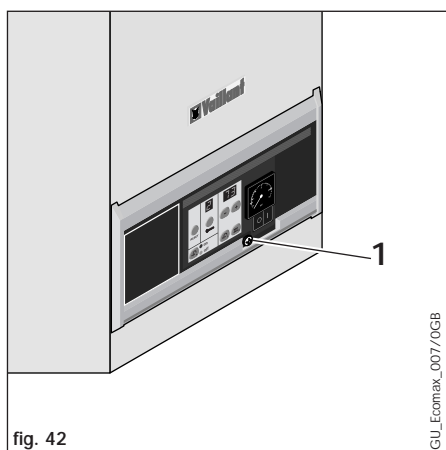

fig. 42
- Replace front case securing screw (1, fig. 42).